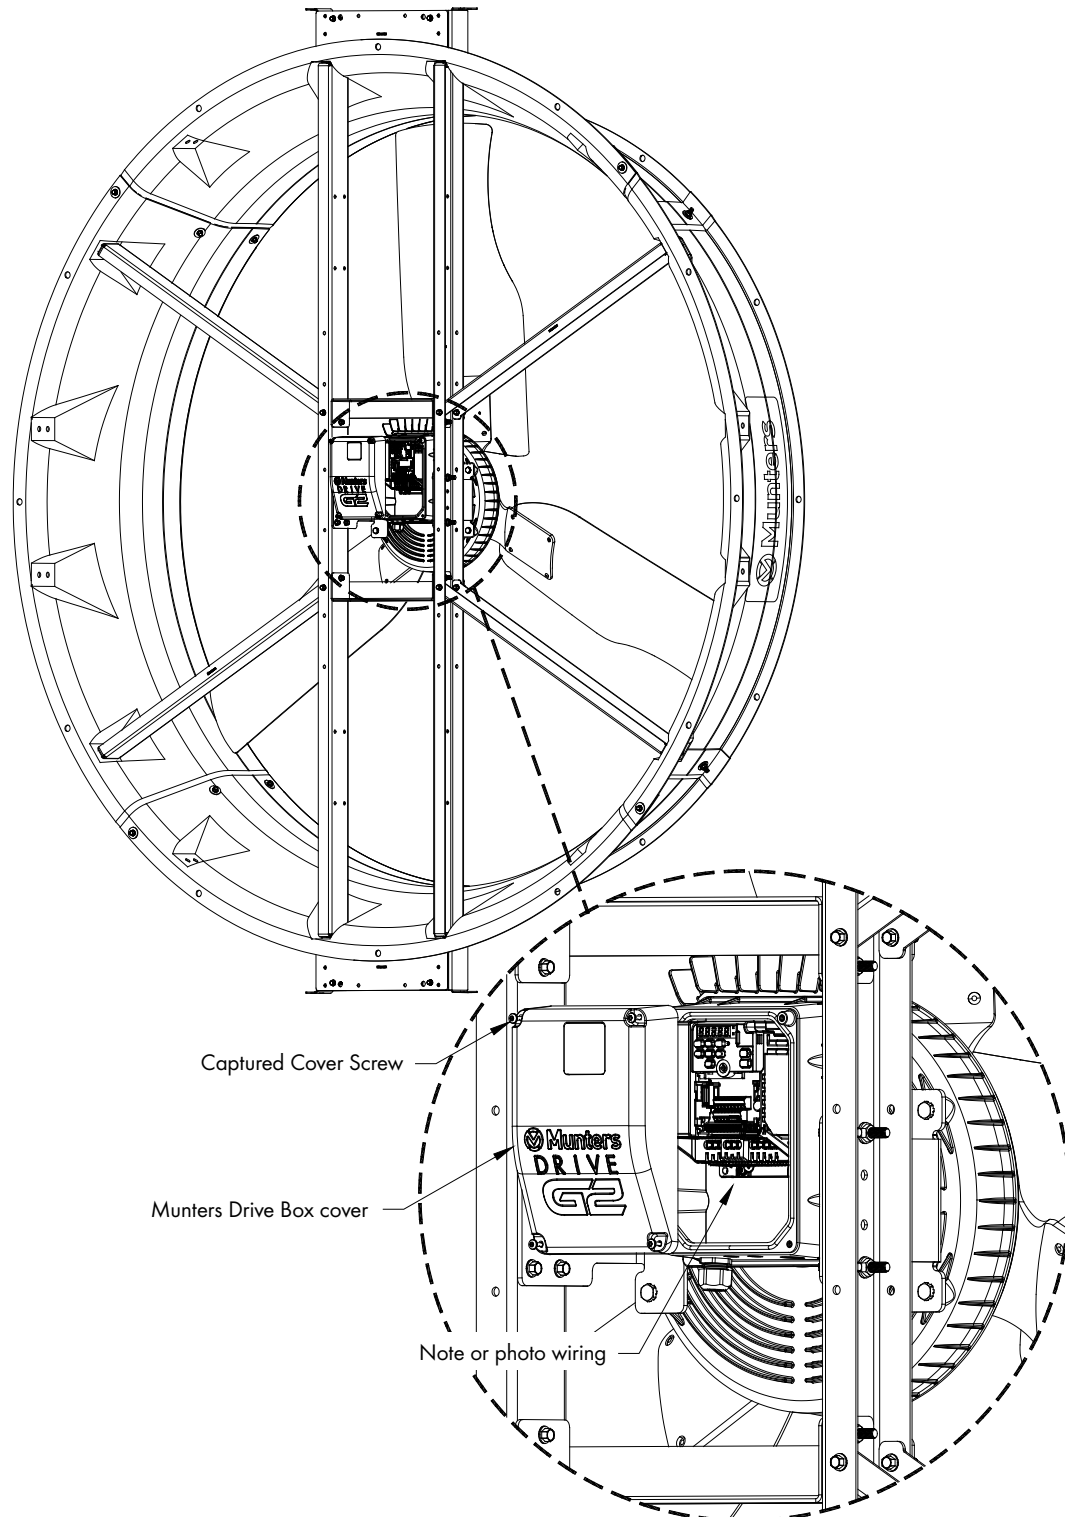

Figure 10
Loosen the (4) captured screws in the Munters Drive Box cover to access the drive wiring. Make a note of or taking a photo of the wiring. Disconnect 3 phase power and the control wires from the drive from the and from the box. See Figure 10.